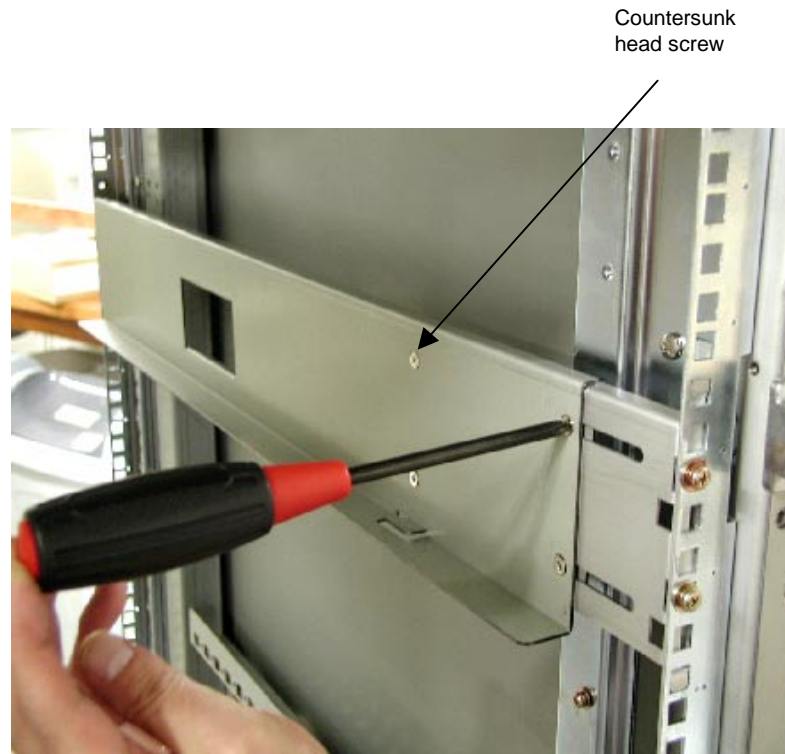

Figure 2-7. Tightening the Countersunk Head Screws
- Firmly tighten the four countersunk head screws loosened in Step 4. See Figure 2-7.